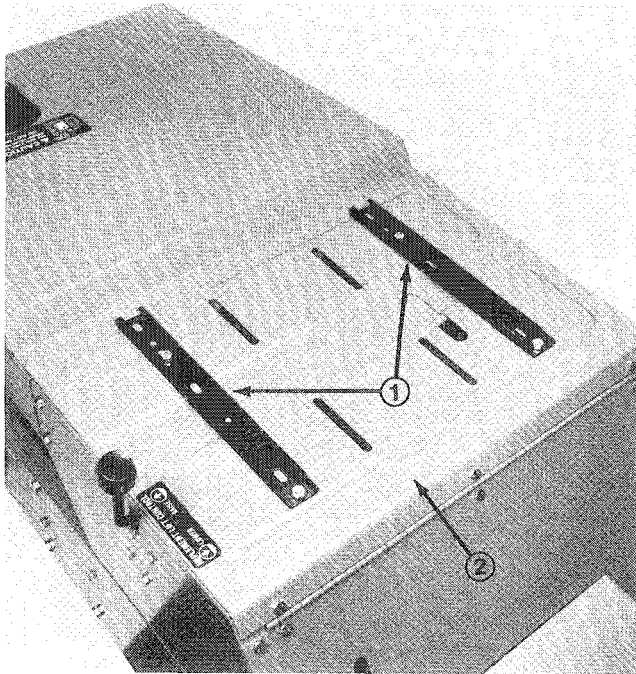
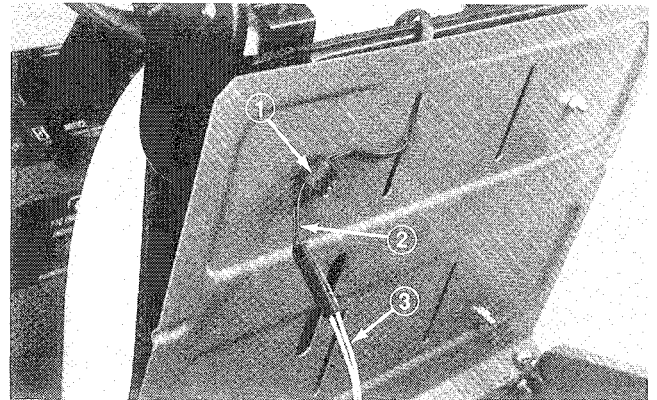

Figure 3
Figure 4
2. Remove lower seat slides and position on seat plate the same way as positioned on seat (Fig. 3).
3. Loosely secure lower slides to seat plate with capscrews and locknuts as shown in Fig. 3. Using left rear mounting screw, secure R-Clamp to underside of seat plate (Fig. 4).
4. Slide seat onto slides from front, routing seat switch wire thru left rear slot in seat plate (Fig. 4).
6. Route seat switch wire thru R-Clamp, plug into jumper wire and secure jumper wire to wire harness (Fig. 4). Make sure wire harness is clear of lift arm and all moving parts.